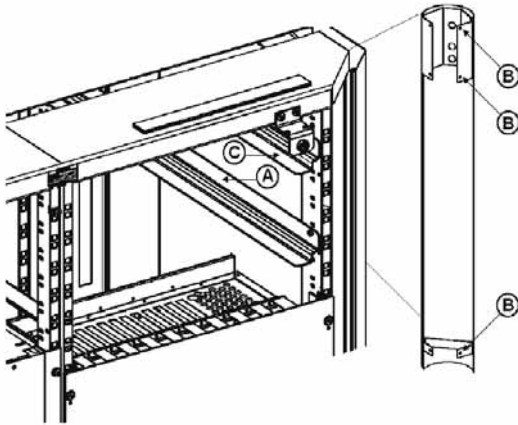

Figure 4.1 Column and rail locations
1. It might become necessary to mount additional rails (part number C79298-A3242-C115), item C in Figure 4.1, to accommodate the LynxEye controller.
2. Relocate the existing rails, A in Figure 4.1, for adequate airflow.
4. Mounting the rails requires removing the front and rear columns of the system. Remove the screws located at position B in Figure 4.1 to detach the columns.